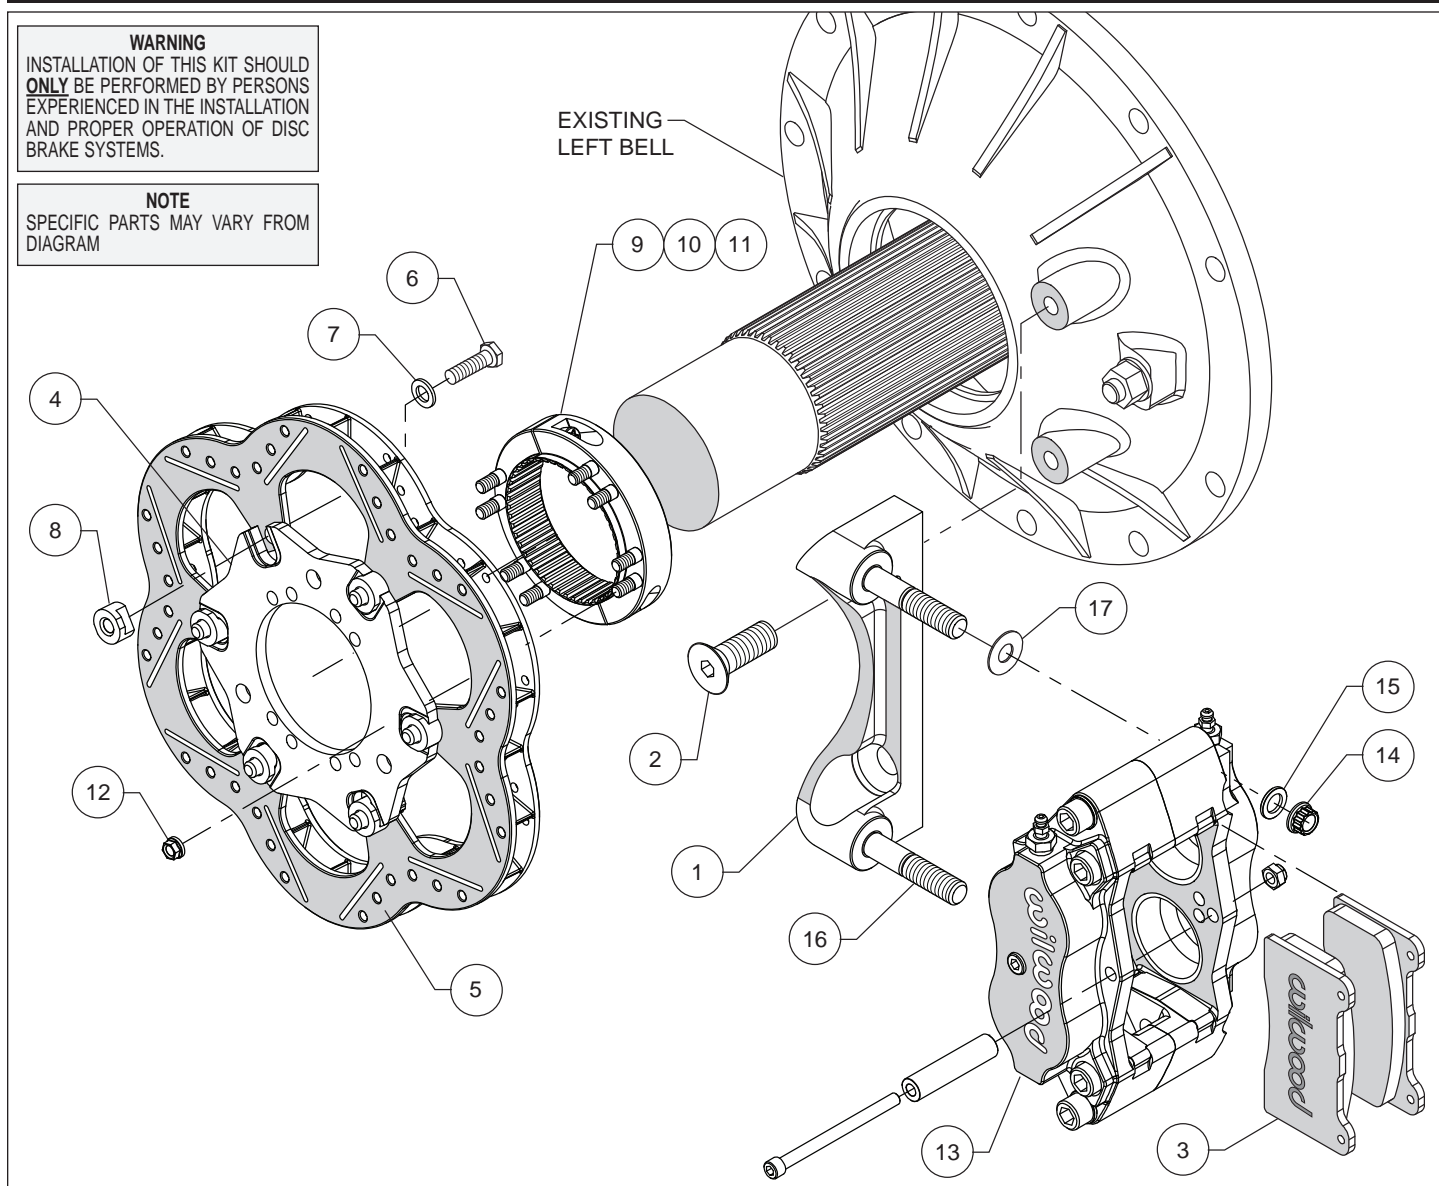

Figure 1. Typical Installation Configuration
• Orient the bracket (1) as shown in Figure 1 and install using bolts (2). Temporarily tighten bolts. **NOTE:** Bracket must fit squarely against the mounting bosses on the bell. Inspect for interference from casting irregularities, machining ridges, burrs, etc. Remove the bracket mounting bolts one at a time, apply red Loctite® 271 to the threads, and torque to 47 ft-lbs.
• With the T-notches of the rotor adapter (4) facing away from the rotor (5), attach adapter to rotor using bolts (6), washers (7) and t-nuts (8) as shown in Figure 1. Apply red Loctite® 271 to the bolt threads before installing. Finger tighten. After all t-nuts have been installed, torque bolts in an alternating sequence to 220 **in-lbs**. Please refer to Wilwood's data sheet DS-669 (available at www.wilwood.com/Pdf/DataSheets/ds669.pdf) for complete t-nut bolt kit installation instructions.
• Orient the axle clamp assembly (9, 10 and 11, pre-assembled) as shown in Figure 1 and install onto the rotor adapter (4) using nuts (12). Tighten nuts part way while still allowing clamp-to-rotor movement. The nuts will be torqued later, after aligning the rotor. **NOTE:** The axle clamp should be positioned inside of the rotor as shown in Figure 1, not offset, or outside of the rotor adapter.
- Lubricate caliper mounting studs (16) with lightweight oil. Initially place two shims (17) on each stud as shown in Figure 1. Mount the caliper (13) onto the bracket (1) using washers (15) and lock nuts (14), Figure 1. Temporarily tighten the lock nuts and view the rotor through the top opening of the caliper. The rotor should be centered in the caliper. If not, slide the rotor/adaptor assembly on the axle until the rotor is centered in the caliper. Tighten the clamp bolts (11) first, locking the clamp to the axle. Torque nuts (12) to 140 in-lbs.
- Remove the caliper center bridge pad retainer bolt, nut, and tube from the caliper. Insert the brake pads (3) into the caliper, with the friction material facing the rotor. Check that the top of the brake pad is flush with the outside diameter of the rotor. If not, adjust by adding or subtracting shims (17) between the caliper and the bracket. After the caliper pad height is set, torque the caliper lock nuts (14) to 30 ft-lb. Secure the brake pads in place with the center bridge pad retainer tube, bolt, and locknut. The locknut should be snug without play in the bolt or tube. Be cautious not to over tighten.